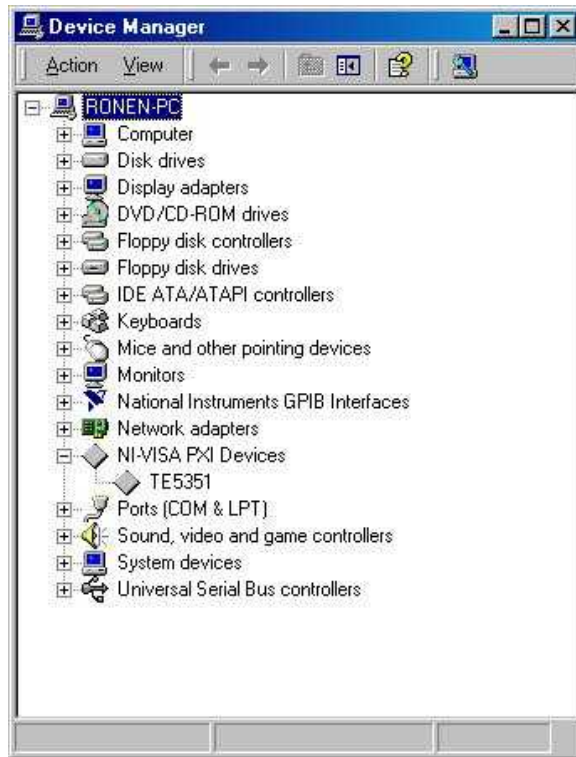

Figure 2-7 – Device Manager
5. Click on Tabor Electronics. If you installed the driver properly, your device manager should show the Arbitrary Waveform Generator Model 5351 as shown in figure 2-7.